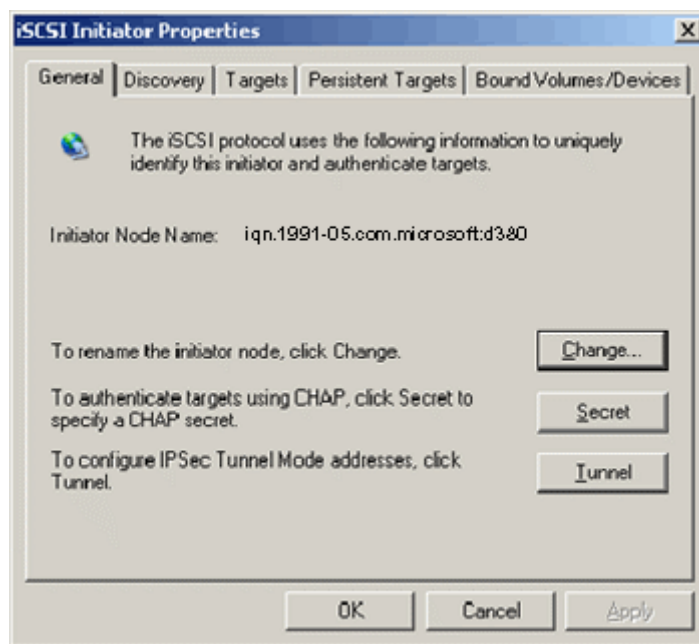

Figure 10-7. iSCSI Initiator Properties: General Page
2. Configure the initiator IQN name according to your setup. On the iSCSI Initiator Properties, General page (see Figure 10-7), click **Change**.